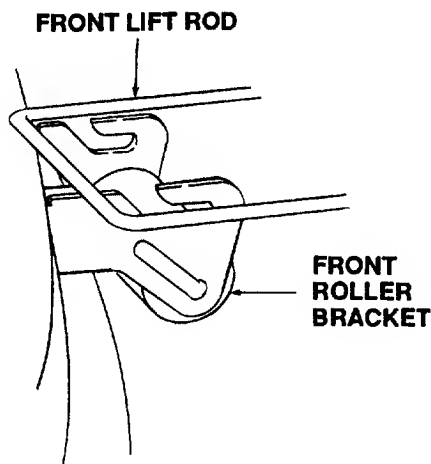
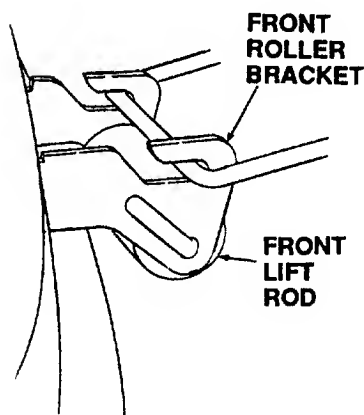

Figure 50
Figure 51
8. Hold the front lift rod upward and slide the mower deck forward. Lower the front lift rod so it rests to the rear of the front roller bracket slots of the deck (Refer to Figure 50). Slide the deck rearward in order to engage the front lift rod fully forward in the slots of the deck front roller bracket (Refer to Figure 51).